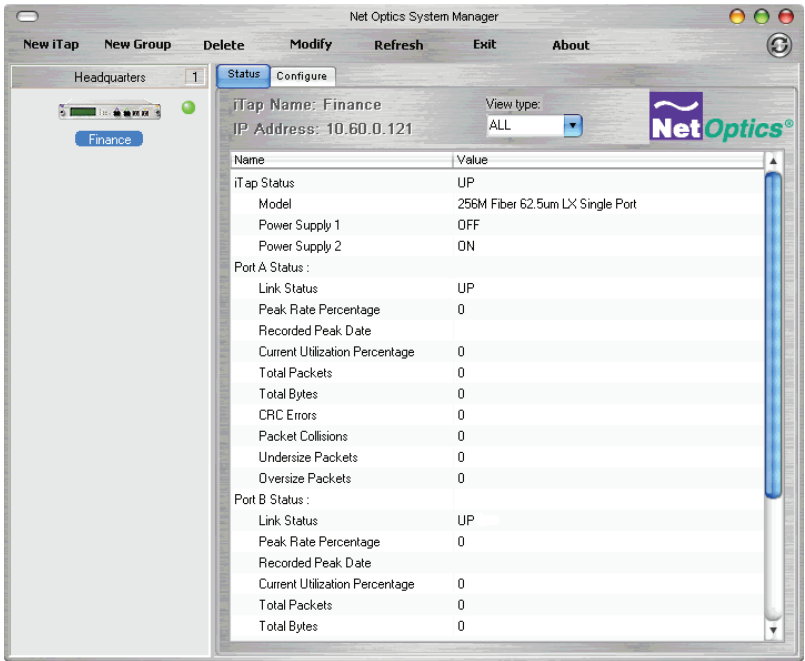

Figure 31: Net Optics System Manager with iTap
6. Check your settings and click **Create**. The System Manger now shows the iTap in the system similar to Figure 31.